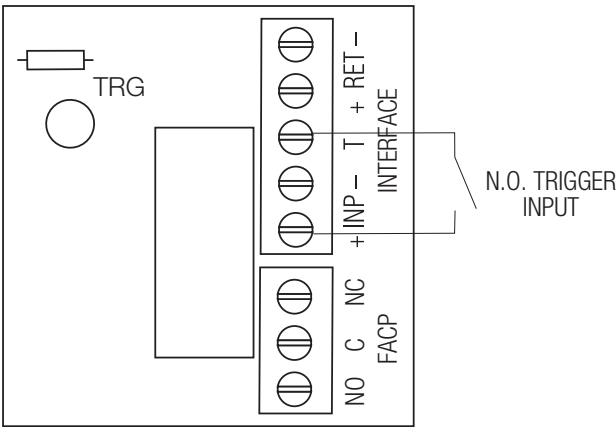

Fig. 8 Normally Open FACP Latching trigger input with reset:
**Note:** All outputs [OUT 1 - OUT 8] must be in a normal (de-energized) condition prior to testing. When the unit is configured for Normally Open (Fig. 8, pg. 10) or Normally Closed (Fig. 10, pg. 10) latching operation, it is necessary to reset the Fire Alarm Disconnect by activating the Normally Closed reset switch.